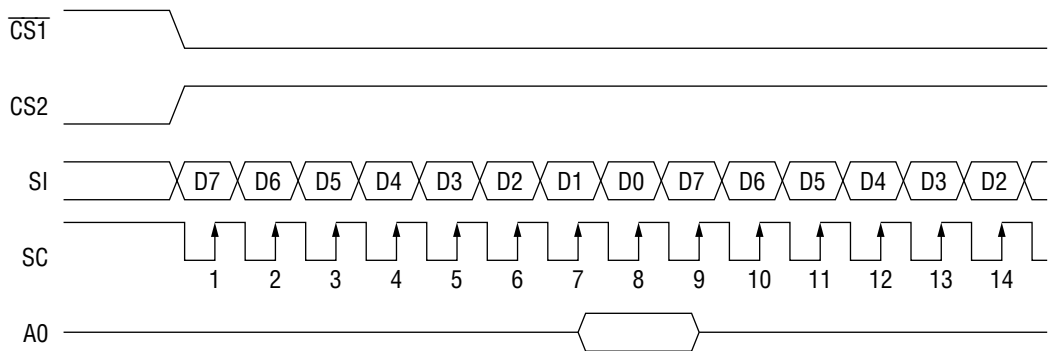

Fig. 1
When the serial interface is selected ($P/\overline{S} = "L"$), the serial data input (SI) and the serial clock input (SCL) can be accepted if the chip is in the active state ($\overline{CS1} = "L"$ and $CS2 = "H"$). The serial interface consists of an 8-bit shift register and a 3-bit counter. The serial data is read in from the serial data input pin in the sequence D7, D6, ... , D0 at the rising edge of the serial clock input, and is converted into parallel data at the rising edge of the 8th serial clock pulse and processed further. The identification of whether the serial data is display data or command is judged based on the A0 input, and the data is treated as display data when A0 is "H" and as command when A0 is "L". The A0 input is read in and identified at the rising edge of the $(8 \times n)$ th serial clock pulse after the chip has become active. Fig. 1 shows the signal chart of the serial interface. (When the chip is not active, the shift register and the counter are reset to their initial states. No data read out is possible in the case of the serial interface. It is necessary to take sufficient care about wiring termination reflection and external noise in the case of the SCL signal. We recommend verification of operation in an actual unit.)